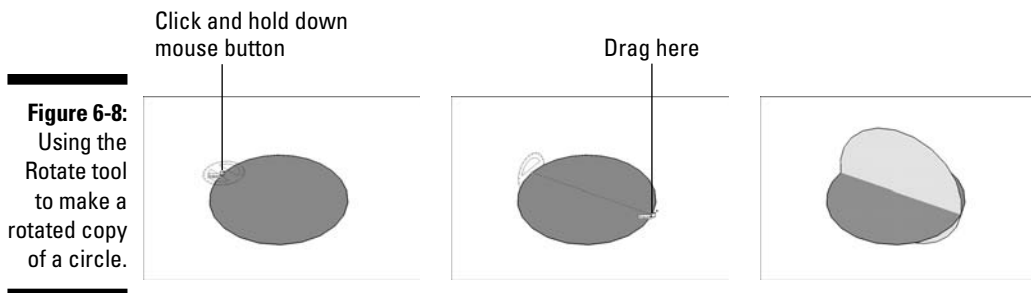

Figure 6-8: Using the Rotate tool to make a rotated copy of a circle.
2. Rotate a copy of your circle up by 90 degrees, as shown in Figure 6-8: